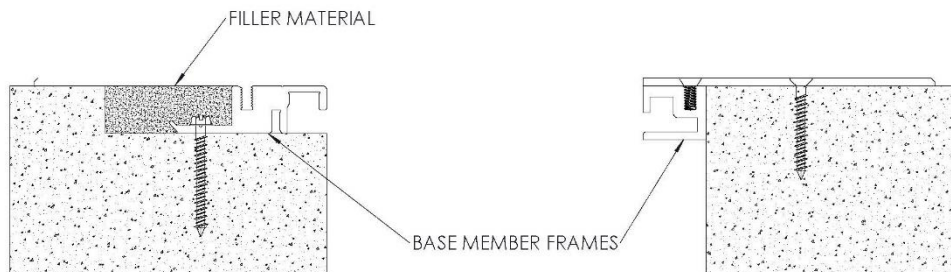

FIGURE 3
3. Protect the exposed surface of the expansion joint, then using an appropriate infill material, fill in the blockout level with the surrounding floor. **See Figure 3**